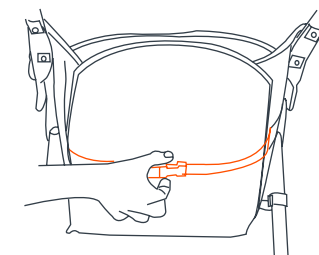
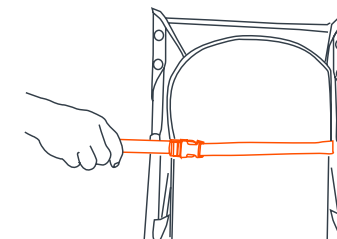

Fig. 15a
Fig. 15b
15) • The seat has a multiple position recline that is controlled by a strap and buckle assembly behind the seat (Fig. 15a). To recline the seat, loosen the strap through the buckle and adjust to the required recline position (Fig. 15b). To place the seat back in a more upright position, press upward on the seat back with one hand while pulling the strap through the buckle with the other. The strap will lock automatically.